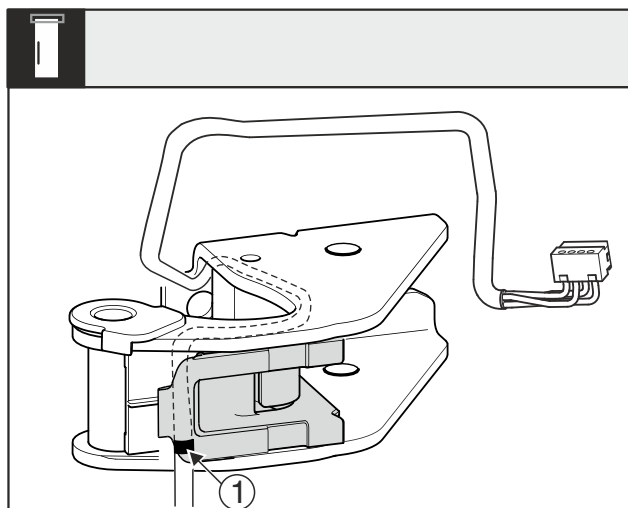

Fig. 27
- ▶ The center mark Fig. 27 (1) must be positioned on the edge of the cable bracket.